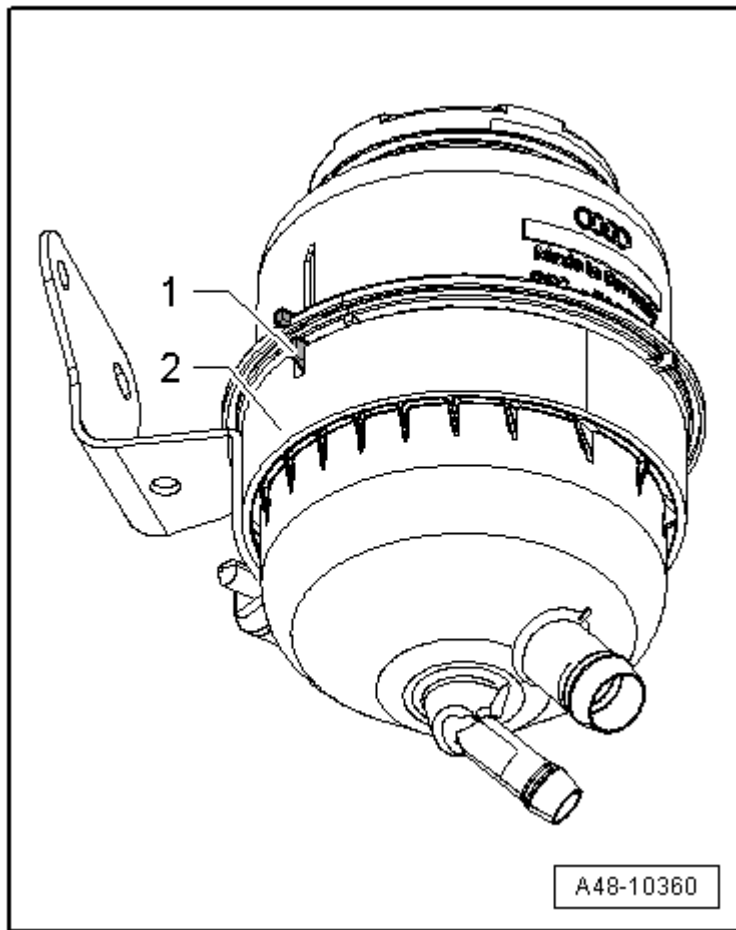

Fig. 20: Reservoir In Bracket
2. Reservoir in bracket, refer to **Fig. 20**
3. Bolt in bracket, refer to **Fig. 20**